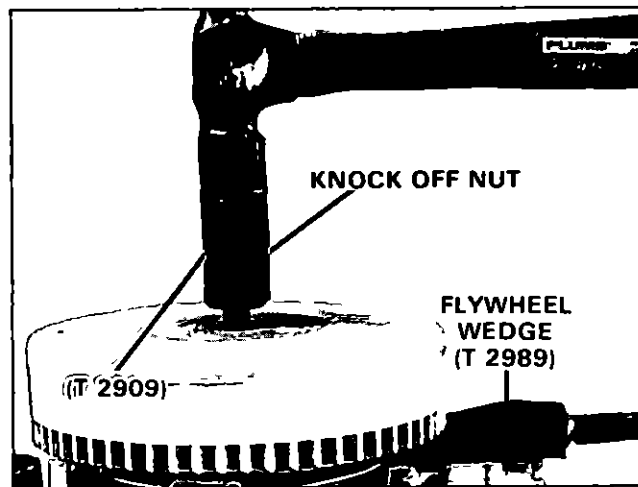

Figure 13. Removing Flywheel from Power Head.
- 7 Thread knock off nut (Special Tool No T 2909) on crankshaft as far as it will go then back nut off two full turns. Figure 13